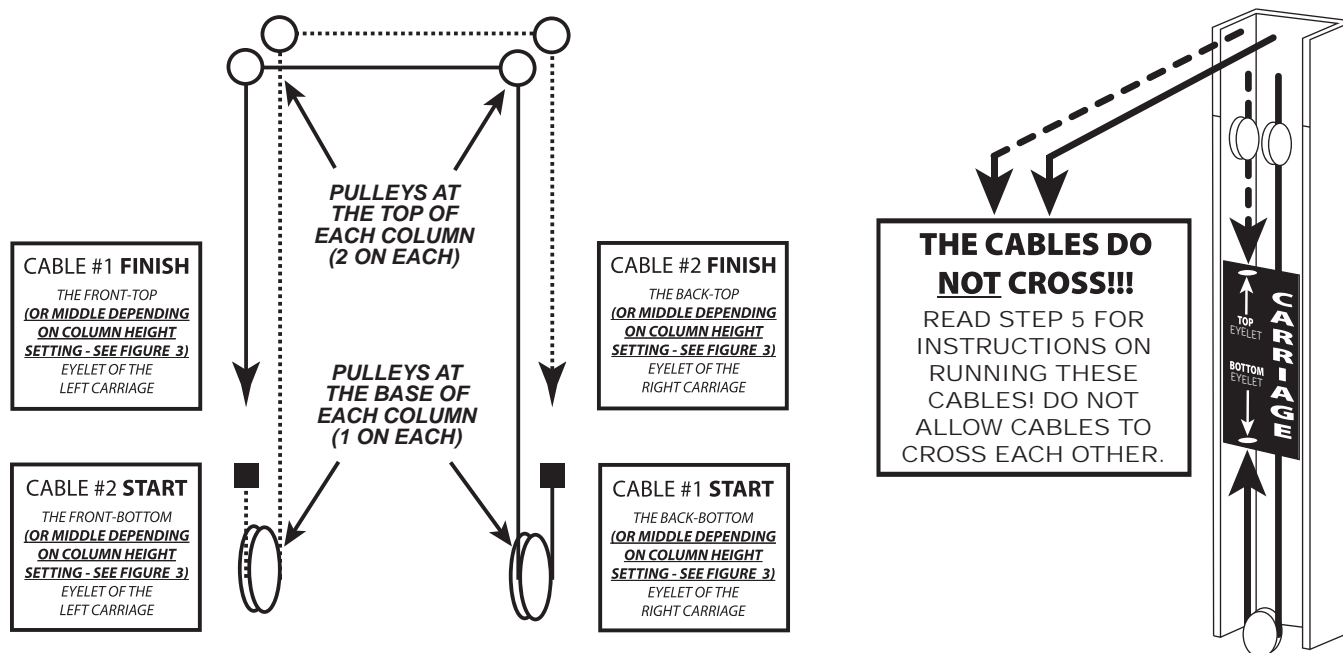

FIGURE 4
**Note for Figure 4:** Do not over tighten cables. This could damage the sheaves or cables.